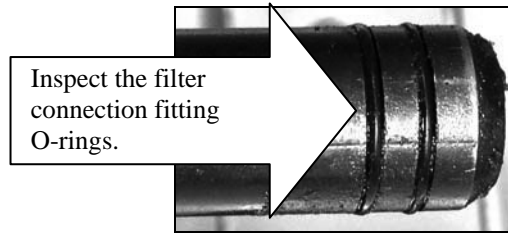

Figure 2
2. Inspect the filter pan connection fitting to ensure that both O-rings are in good condition (see Figure 2).